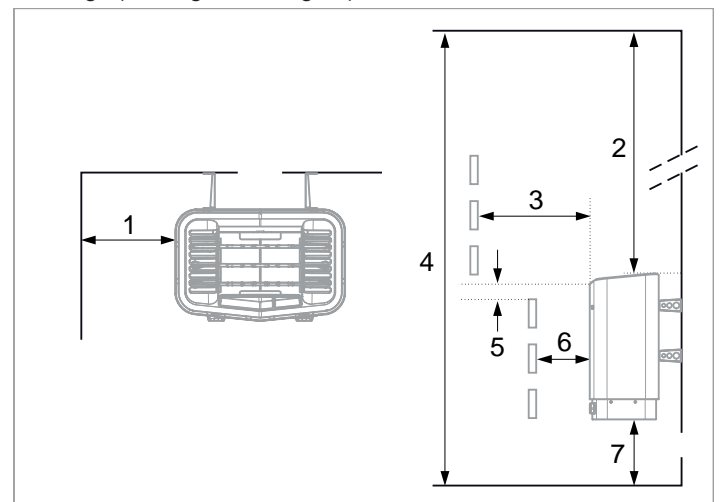

Figure 2: Positioning the heater - normal installation
- at a safe distance from the floor, side walls and interior fittings (see Figure 2, Page 5).